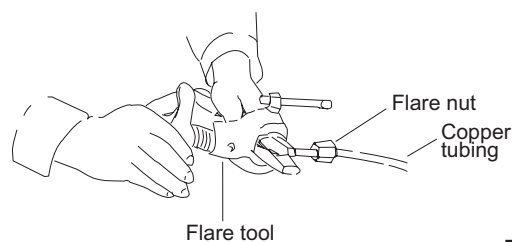

Fig. 2-279
- (3) Remove the flare nut from the unit and be sure to mount it on the copper tube.
- (4) Make a flare at the end of copper tube with a flare tool. (Fig. 2-279)